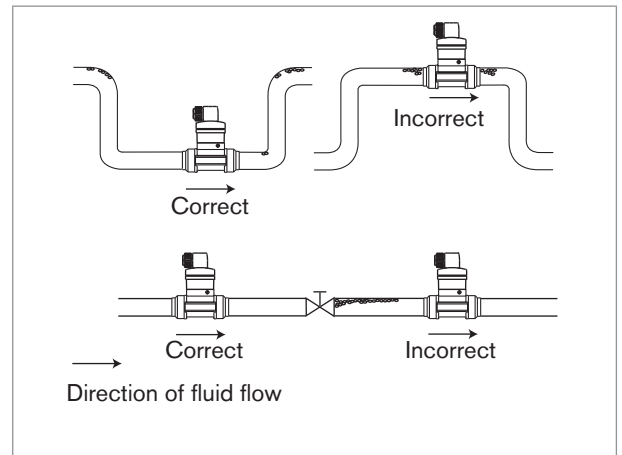

Fig. 4: Additional recommendations on installation
- Prevent the formation of air bubbles in the pipe (see Fig. 4).